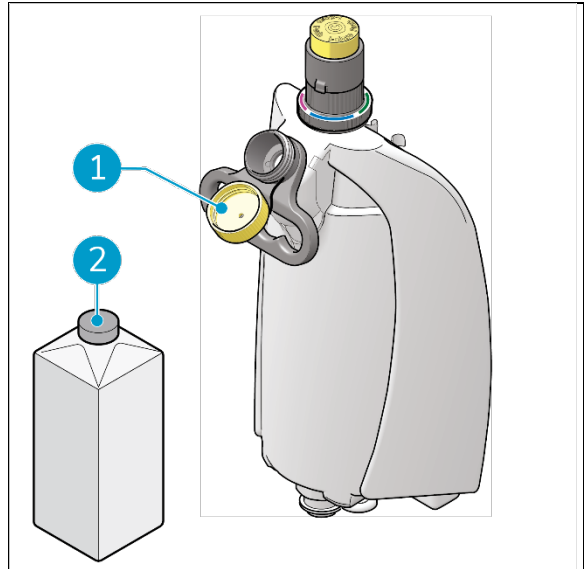

Figure 16
4. Remove the yellow cap (Figure 16, pos 1).
5. Pour in a maximum of 1 gal / 4 L of water (Figure 16, pos 2).
6. But back the yellow cap (Figure 16, pos 1) and make sure it seals tightly.
11. Press the i-dose injector button (Figure 16, pos 5) to dispense the contents of the i-dose pod.
12. Turn the indicator ring so that the color corresponding to the i-dose pod is facing towards you (Figure 16, pos 3).